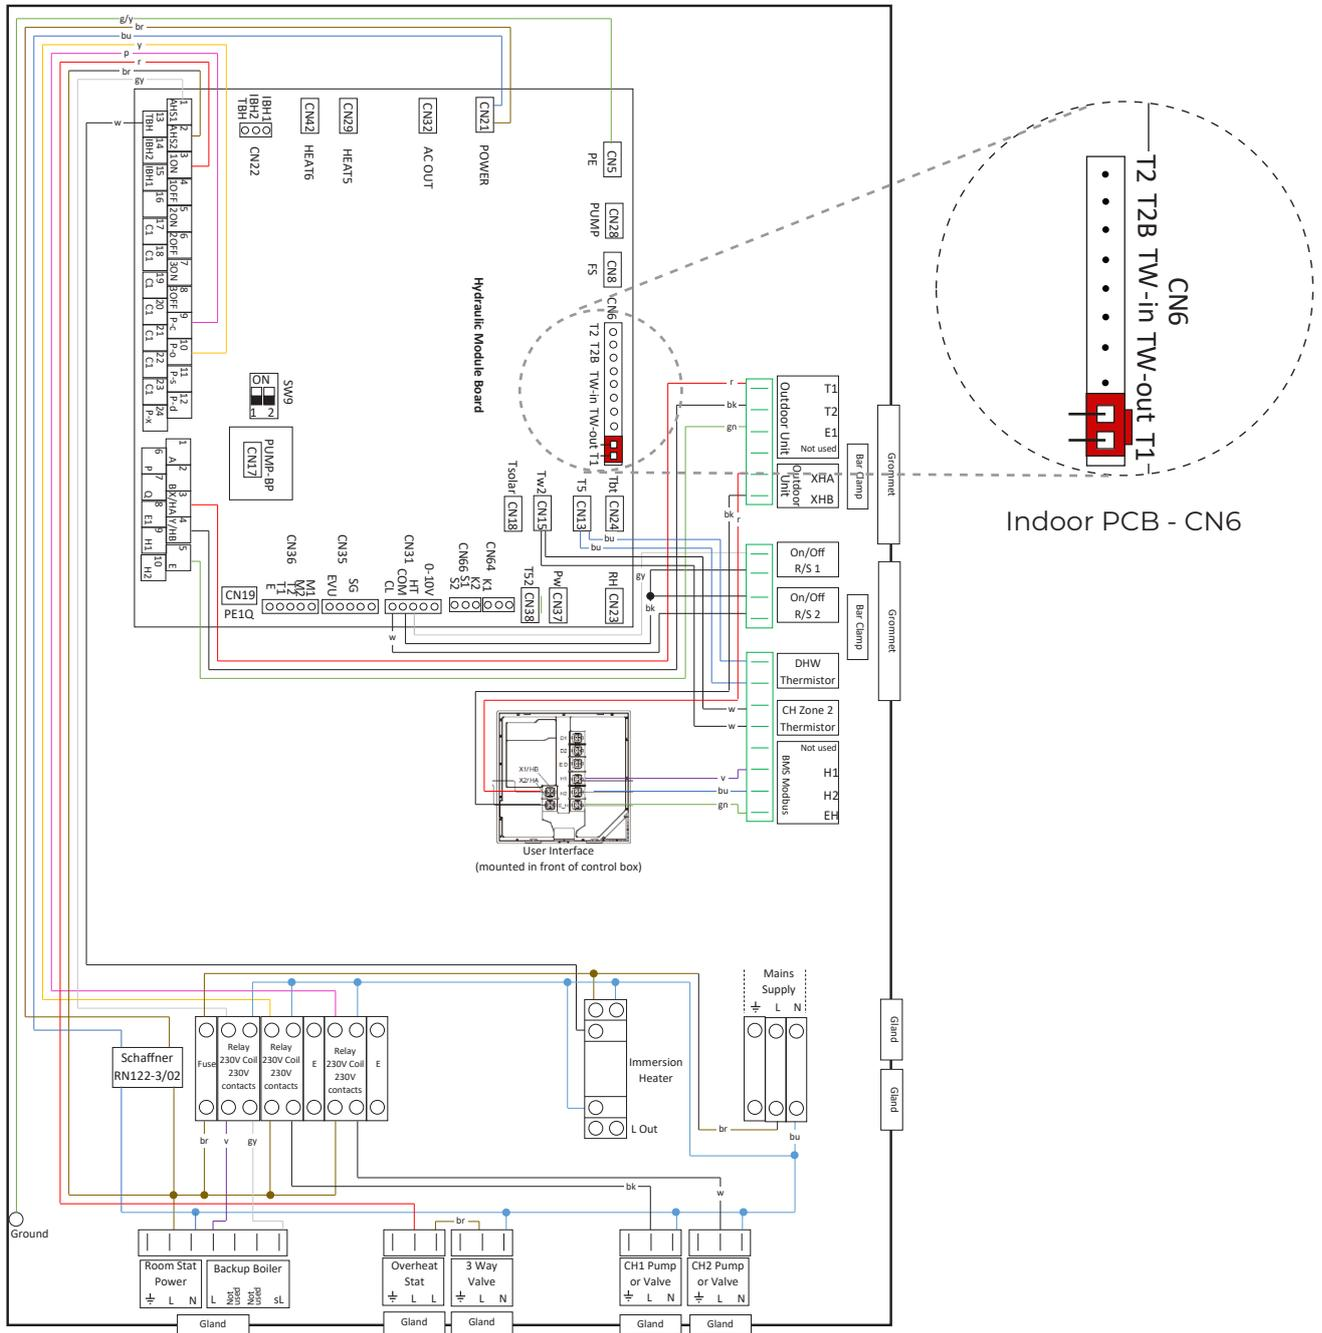

Figure 3. HP290 Control Box - Internal Wiring
5. Attach the T1 Common Flow Thermistor (supplied with the Hybrid Kit) to connector CN13 (Figure 2) on the outdoor unit or CN6 on the indoor unit (Figure 3).
**Note.** If it is preferred to connect the T1 Common Flow Thermistor to the indoor PCB. Make sure that power to the indoor control box is isolated, remove the cover and connect the Thermistor Wire to CN6 on the indoor PCB (Figure 3).